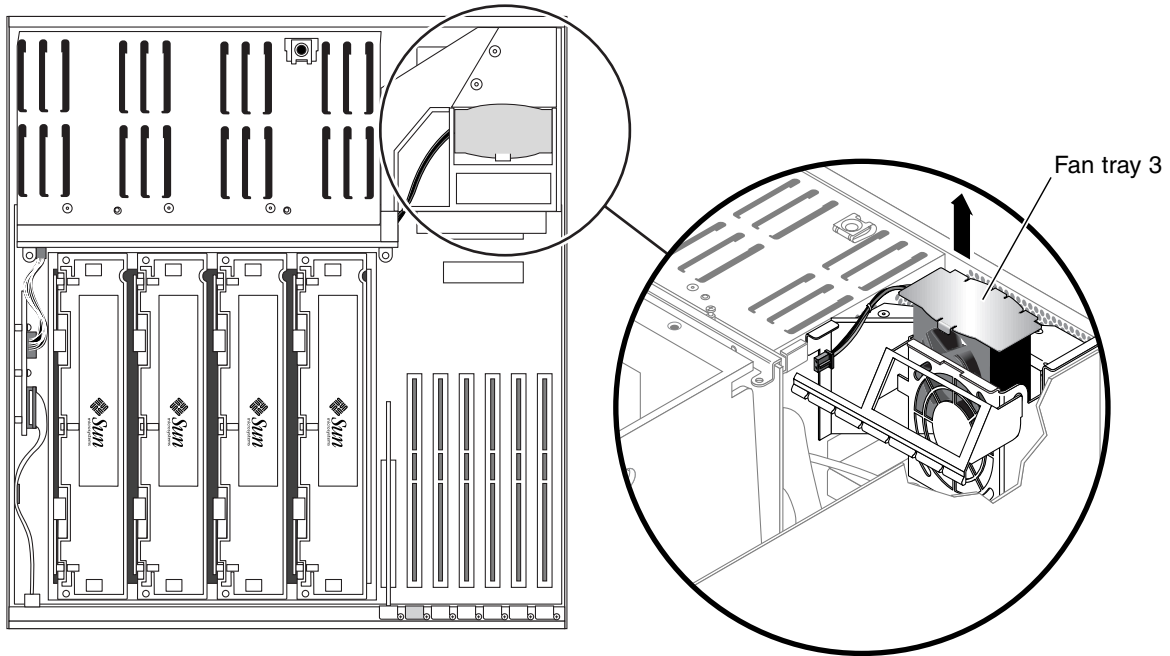

FIGURE 4-18 Removing Fan Tray 3
5. Grab the metal plate at the top of fan tray 3 and pull fan tray 3 up and out of the system (FIGURE 4-18).
1. Align the tabs on fan tray 3 with their corresponding slots in the chassis (FIGURE 4-18).